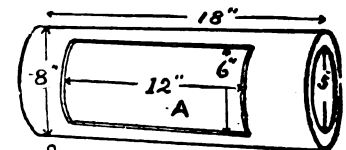

FIG. 1
without loss of twist. Any further operations with regard to the method of unlaying the strands are a matter of choice. Where all the strands are unlaied to the whipping and then intertwined before cutting they can, after being pulled up, be taken singly, one to the left and the next to the right, or two can be taken together as shown in Fig. 1, A and B being unlaied to the left and C and D laid in their place. It will be seen that though the strands are alternate they are together on each side. The best method of splicing is shown in Fig. 2, each alternate strand being unlaied close to the whipping. The solid part consists of three strands, the core being cut away close to the whipping on each side. The ends are then laid the short distance shown, then interleaved and pulled up to get the correct lay before commencing the laying in of the strands which proceeds on the usual lines.
**In Reply:**—This reader evidently requires a hardening furnace and while the number or quantity of the springs is not stated the furnace here suggested will no doubt be found of sufficient size for his purpose. As shown in Fig. 1 it consists of a cylindrical casing made of 16-in. gauge sheet-iron for strength, with end caps and chimney ferrules as shown. A hole A is cut out for the burner flame. Another casing (Fig. 2) should be made of the same gauge metal as the cylinder. This is attached to the cylinder as shown in Fig. 3 to form a base for the furnace. No details of construction are given, the various parts being joined either with angle strip or bent edges. Before joining the two parts of the body together, rivet to the inside at intervals and along the edges strips cut and bent as in Fig. 4. These strips hold the fireclay and prevent it falling out when cracked. The inside should be covered with at least 1 1/4 in. of fireclay, pieces of firebrick being embedded at each end of the space at the bottom of the cylinder, to take the wear of the muffle as it is taken out or put in the furnace. The muffle may be a length of 3-in. or 4-in. diameter steel tube closed with an iron cap at one end, the other end being plugged with a fireclay-lined iron cap, after being charred. The fireclay lining opposite the hole B should be curved as shown by the dotted lines to deflect the flame on to the muffle in the furnace above. The burner, which would have to be fairly powerful, can be of the ordinary blowlamp type with a separate tank provided with an airpump. The chimneys would have to be partially covered up if a forced flame was employed. With a burner of the ordinary bunsen type the chimneys would have to be extended considerably.